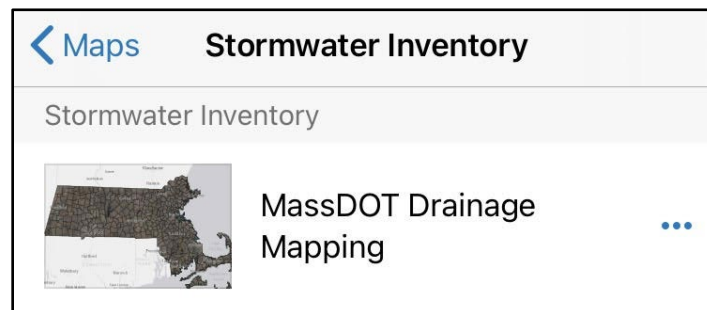

Figure 13
4. Select the MassDOT Drainage Mapping Versioning map (Figure 13). See **Section 4** for detailed guidance on field mapping in ArcGIS Field Maps.